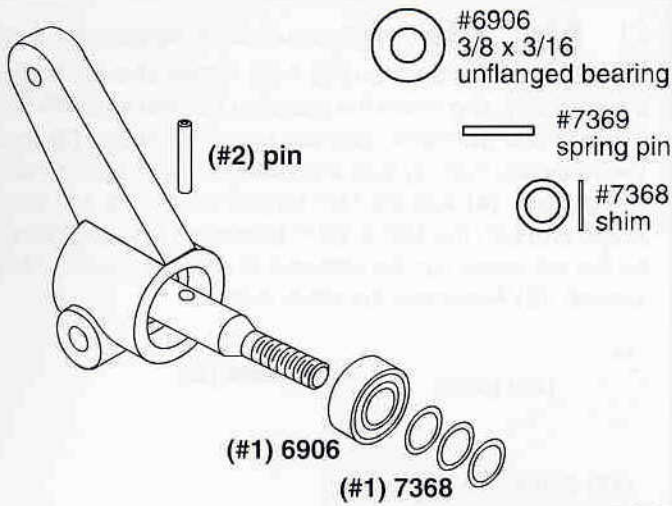

Fig. 138
- Fig. 138** (1) Slide one #6906 unflanged bearing onto the axle, then three #7368 shims. (2) Install the #7369 spring pin with your needlenose pliers, which will hold all the shims against the bearing.